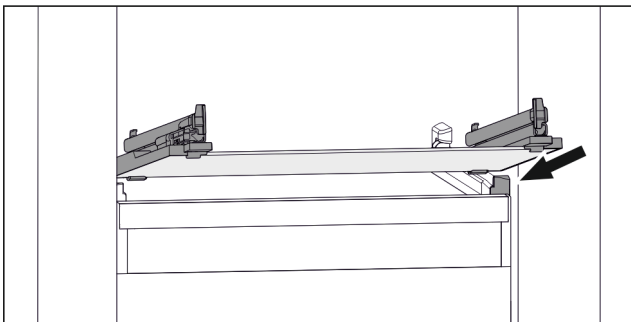

Fig. 142 Example illustration of glass shelf
- ▶ Position glass shelf at an angle behind the stoppers. (see Fig. 142)